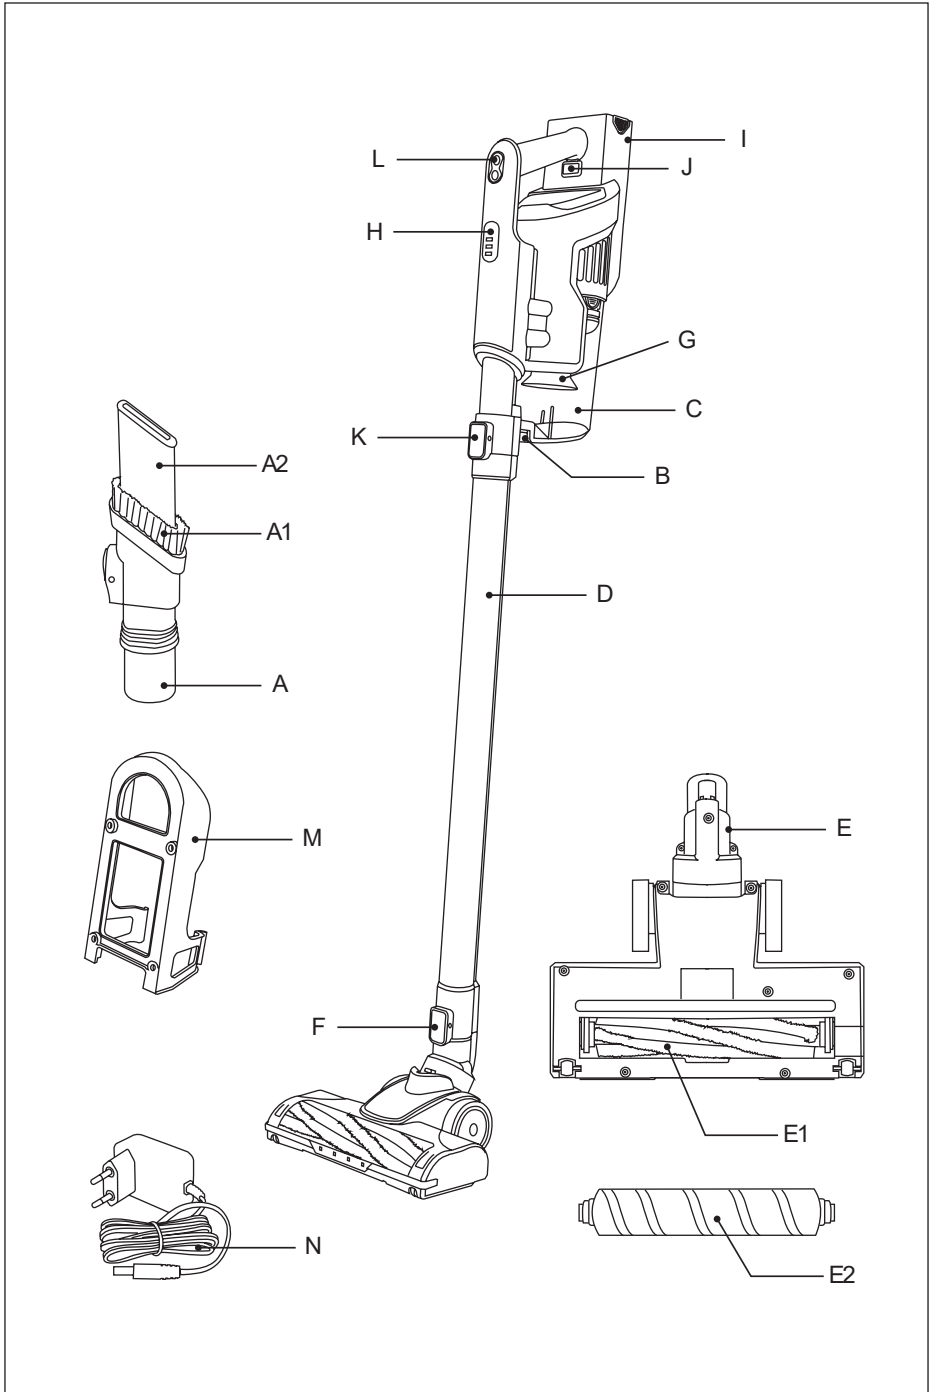

Fig 1
- Respect the MAX level indicator. (Fig.1)